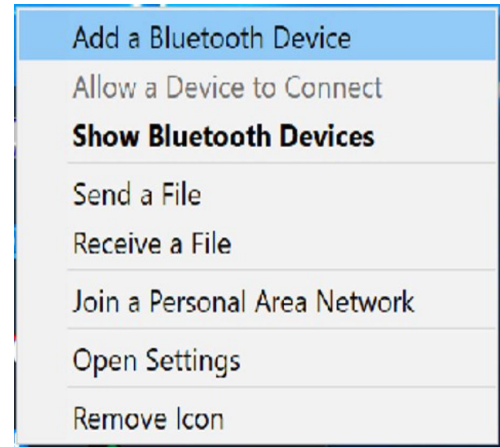

Figure 11. Add a Bluetooth Device
1. Click the **Bluetooth Devices** icon in the system tray and select **Add a Bluetooth Device** (see **Figure 11**).